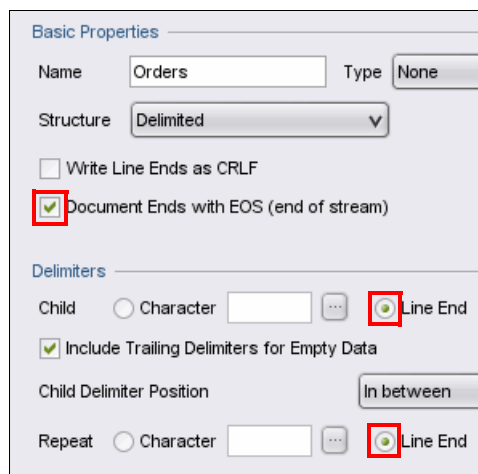

Figure 12-17 Basic Properties and Delimiters for the Orders flat file schema
2. In the Orders entity tab, select the **Document Ends with EOS (end of stream)** option. In the Delimiters section, set **Line End** for both Child and Child Delimiter Position options. The flat file schema uses new line as the record delimiter. Refer to Figure 12-17.